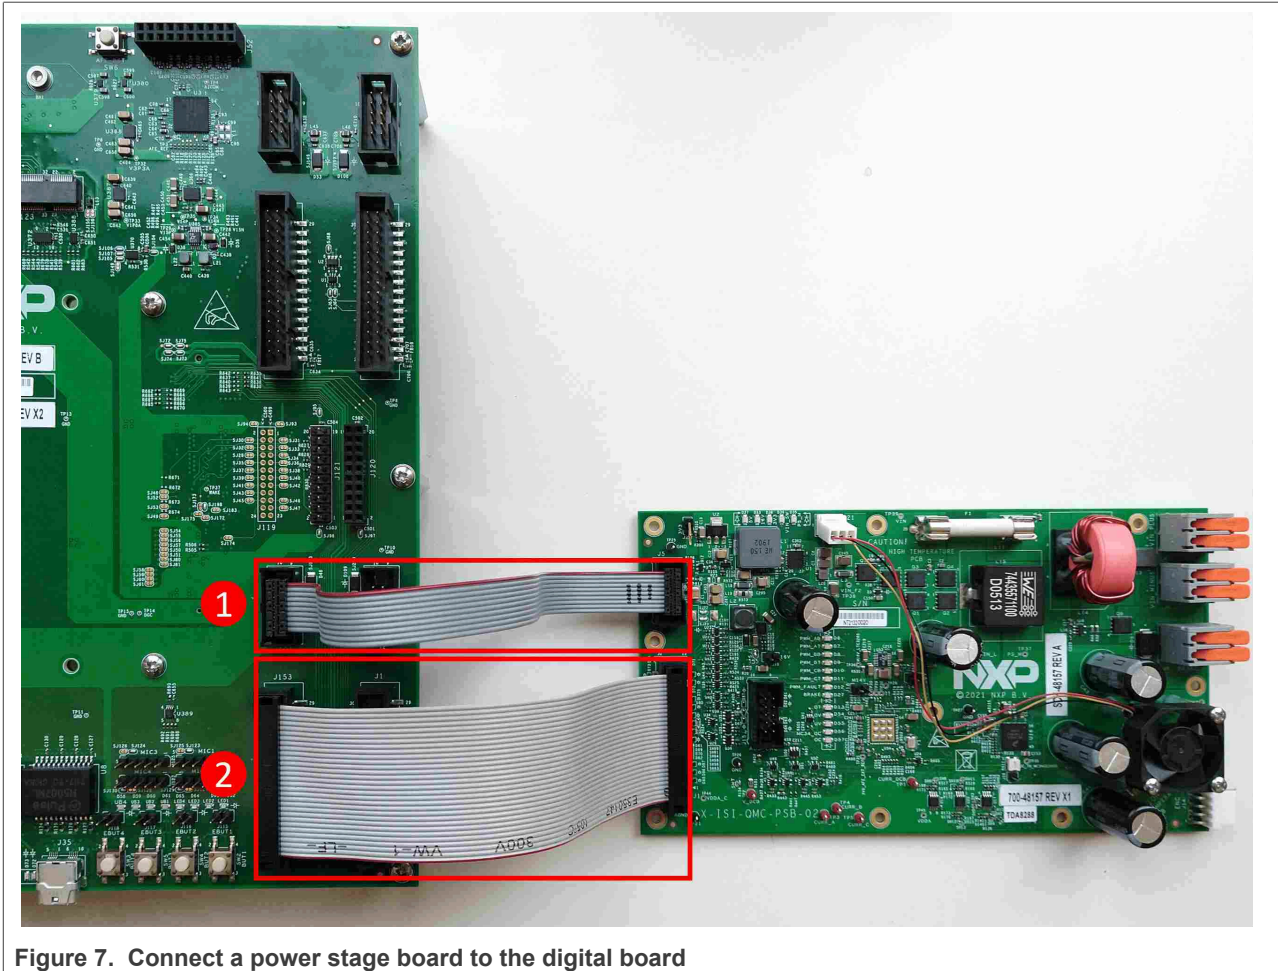

Figure 7. Connect a power stage board to the digital board
2. Connect the power stage boards to the digital board using the connectors described in the previous step. Figure 7 shows as an example the connection of the power stage board controlling *motor 1*: